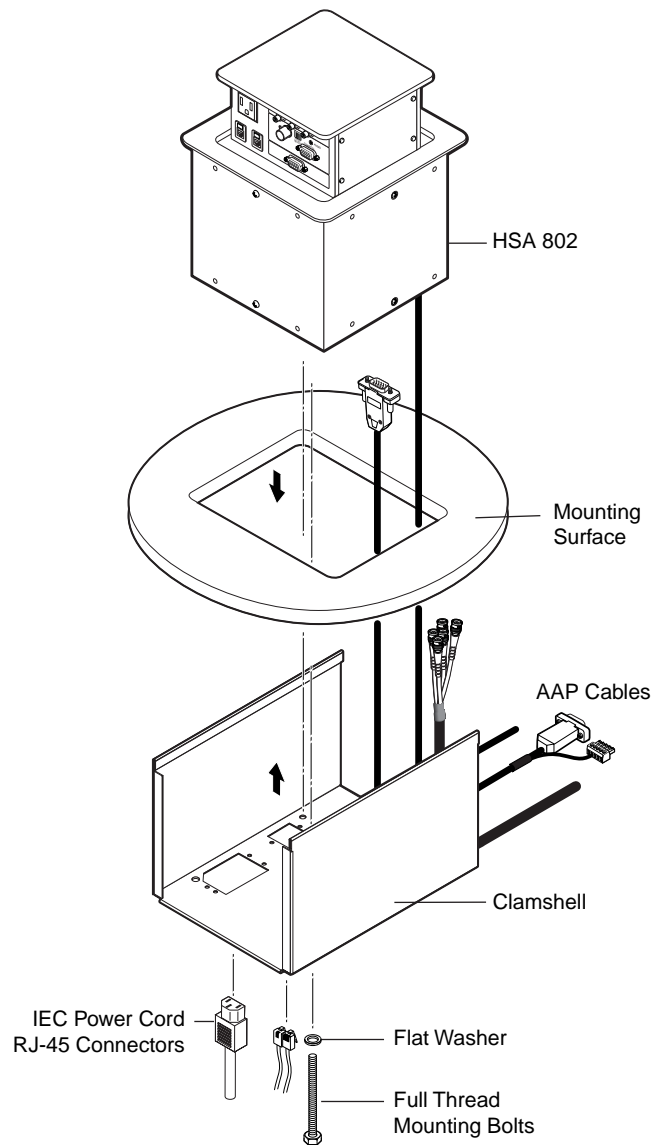

Figure 2-3 — Mounting the HSA 800 enclosure
8. From the underside of the table, bolt the clamshell to the enclosure with two bolts of optimum length (included) (figure 2-3).